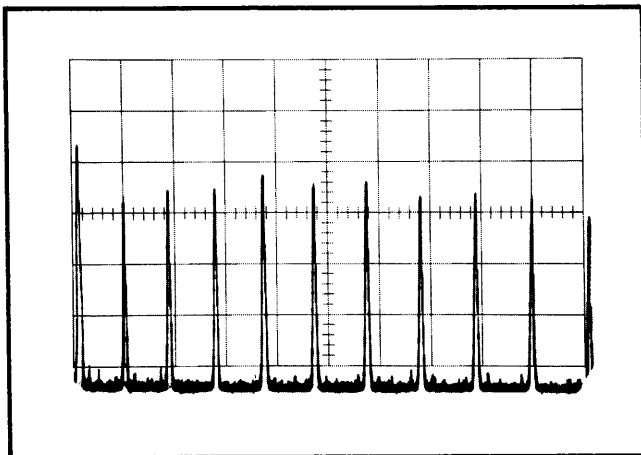

Fig. 5-5. Display for Dispersion Linearity check (Step 12).
- c. At each DISPERSION/CM setting of Table 5-3, readjust the DISP CAL adjustment to align the correct markers with the first and ninth graticule lines (see Fig. 5-5). (The IF CENTER FREQ controls may be moved slightly away from center to position a marker at the first graticule line.)